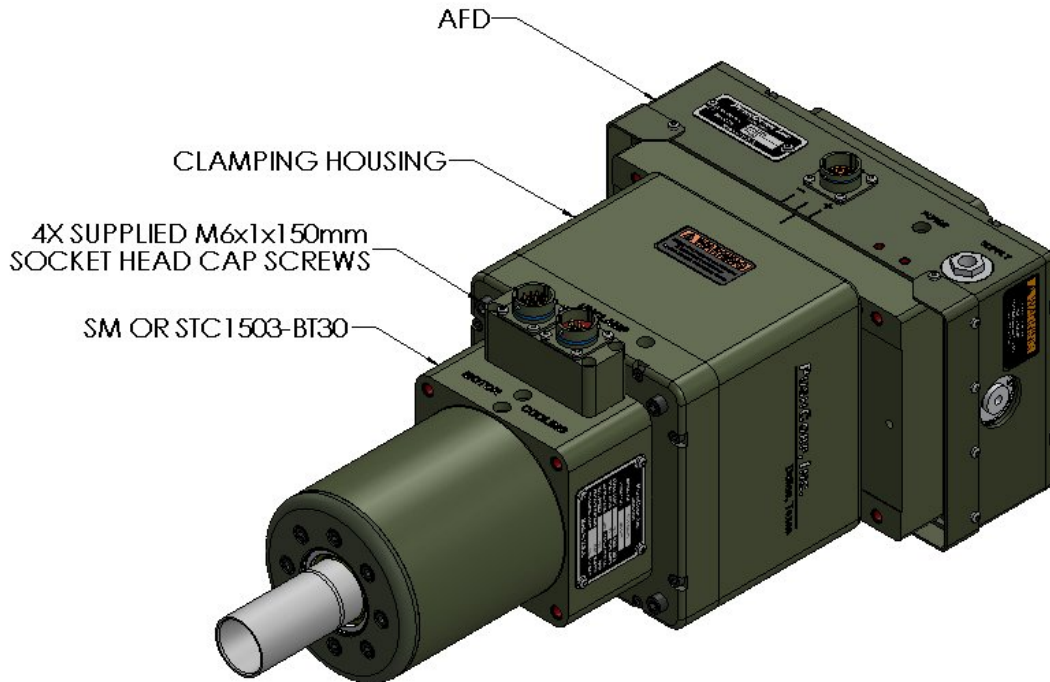

Figure 2. Spindle Motor Perpendicular-Axis Configuration
To attach the motor to an AFD in a Perpendicular-Axis configuration, position the Clamping Housing/Mounting Plate over the Carriage as shown in Figure 2. Then secure the unit using four (4), M6x1 Socket Head Cap Screws (length is dependent on motor SMxxxx = 25mm, STCxxxx-BT30 = 145mm). Tighten the fasteners to the torque specified in Section 4.0. 5mm Dowel pins can be inserted and glued into the Carriage to align the motor. The Clamping Housings and Mounting Plate have pre-drilled clearance dowel holes for this configuration.